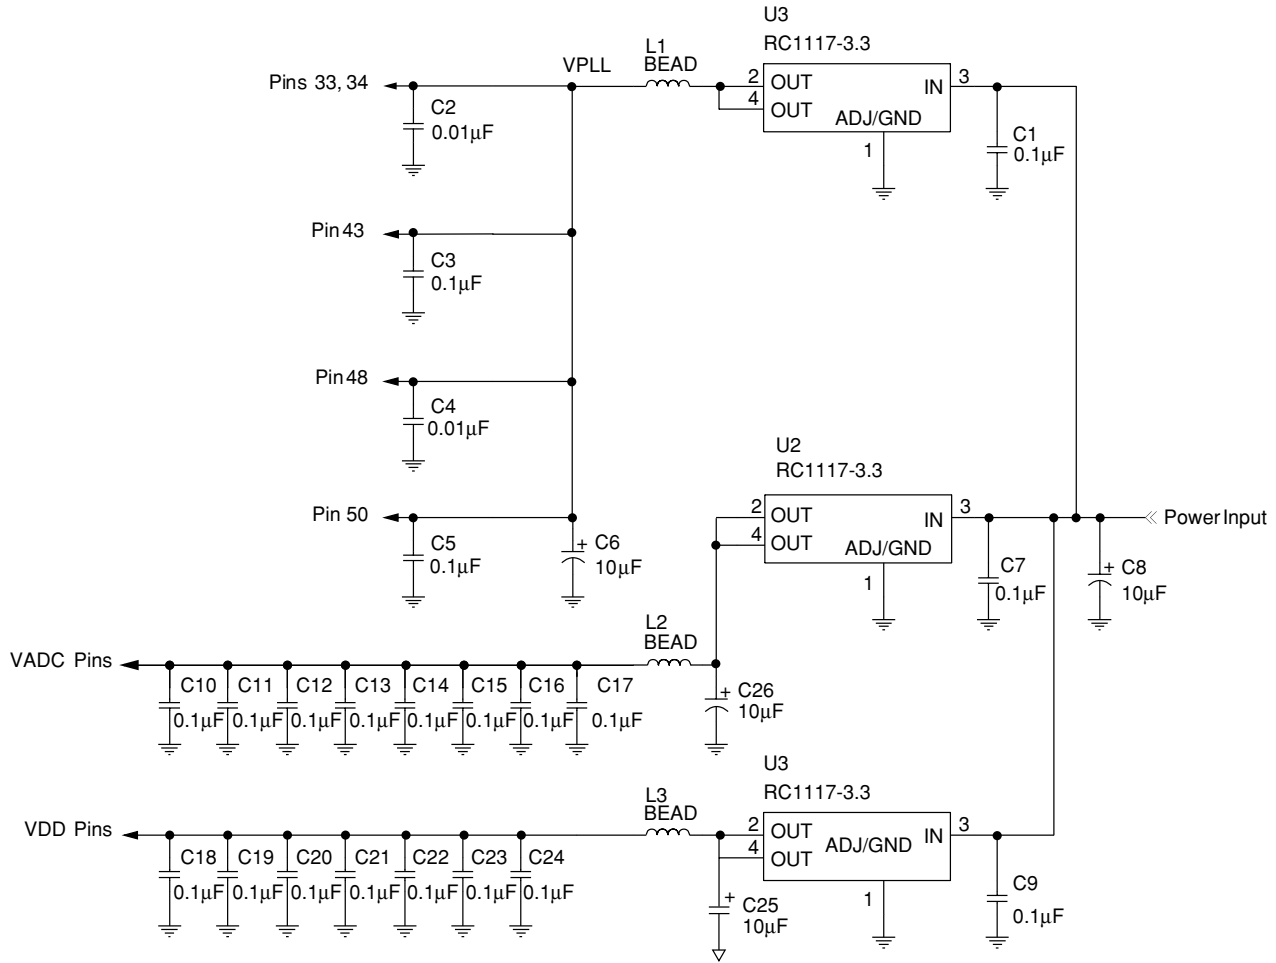

Figure 24. Recommended Power Distribution
A schematic of the recommended power distribution is shown in Figure 24. Note that:
3. Each V_{DDP}/GND pin pair: 24&25/26, 31/30, 36/35, and 38/37 should be decoupled with a 100–1000p/10µF pair of capacitors (see Figure 24). If board space is limited, use as many capacitor pairs as possible.